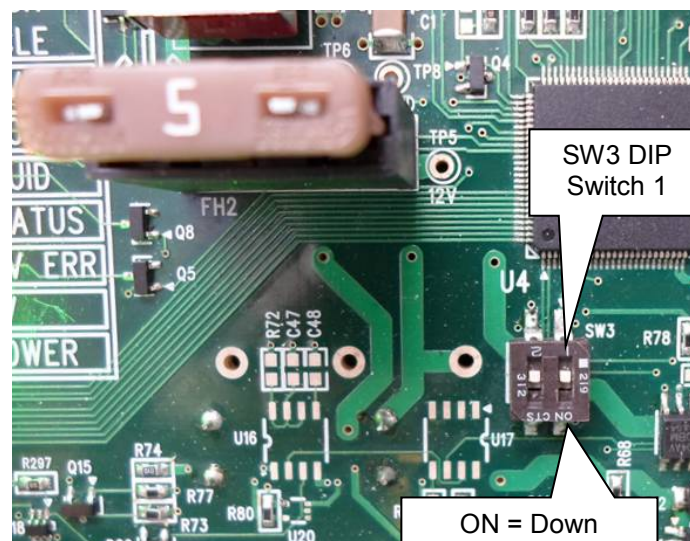

Figure 6-9: Default IP address DIP switch
- Set the SW3 DIP switch number 1 to the ON position (see Figure 6-9).